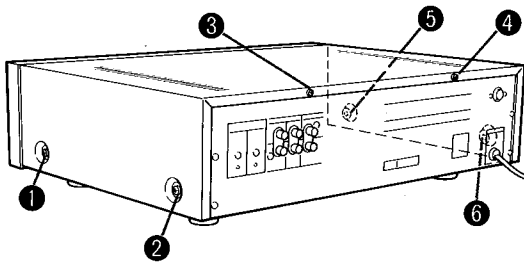

Fig. 1
Remove screws ① to ⑥ in Fig. 1, then remove the cabinet top.